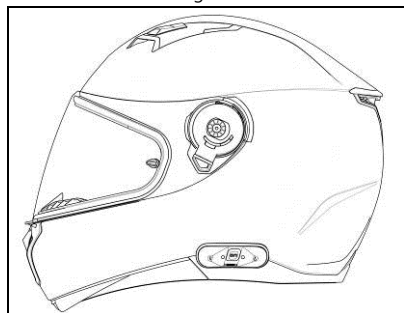

Fig. 19
- The proper positioning of the keypad is illustrated in Fig. 118 and in Fig. 19.